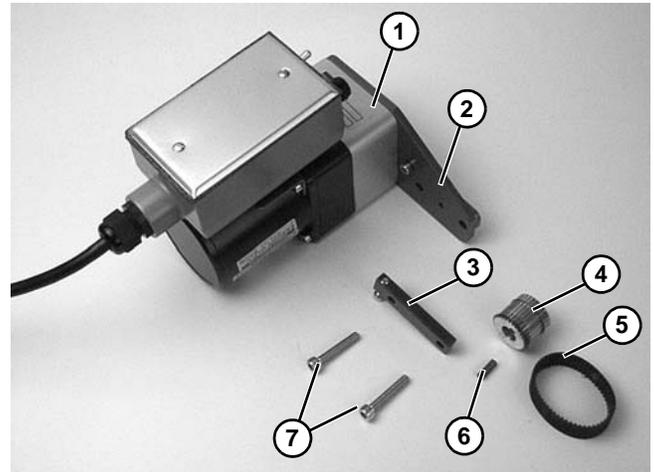

Figure 2
4. Typical components (Figure 2)